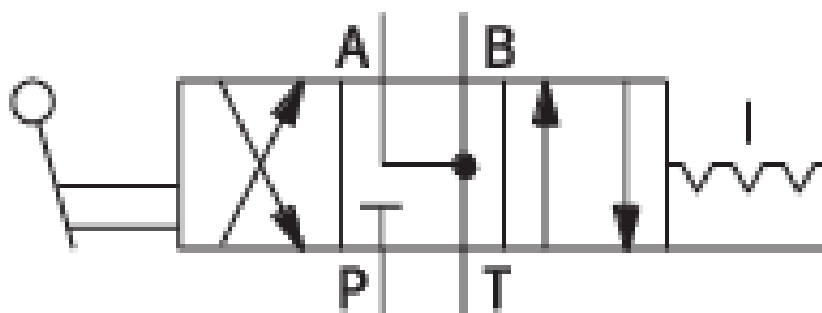

Figure 5.4: Symbol for a 4/3-way DCV with a relieving (tandem) center position. A and B are connected to T in the middle.
- **Operation:** In its neutral **middle position**, the working ports A and B are connected to the Tank (T) port, while the Pressure (P) port is blocked.
- **Application:** This allows the actuator to be moved freely or "float" when the valve is centered. It also unloads the pump by connecting its flow directly to the tank in some configurations, saving energy. See Figure 5.4.